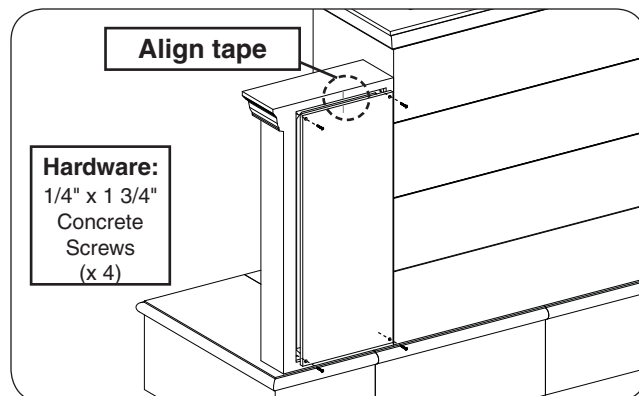

Fig. 18-2 Assemble rear side-wall (skip if n/a)
2. Each rear side-wall piece is marked with tape for proper alignment. Place the correct rear side-wall piece in position against the rear of the main piece, then fasten using a Phillips screwdriver and the supplied concrete screws (see Fig. 18-2).